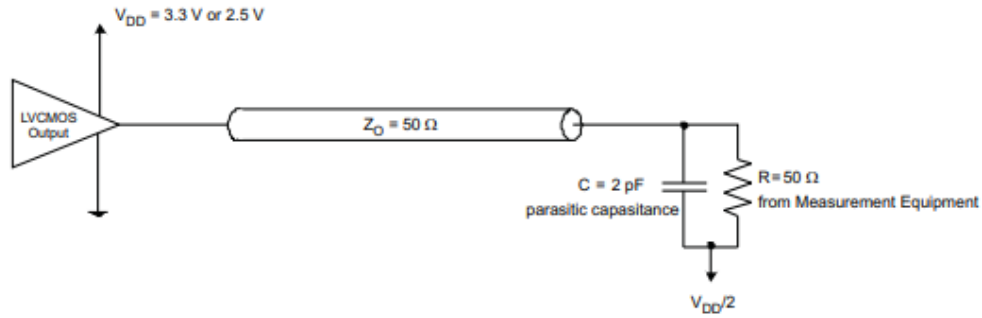

Figure 1. Test Load Circuit
(1) All typical values are at respective nominal V_{DD}. For switching characteristics, outputs are terminated to 50 Ω to V_{DD}/2 (see Figure 1).
(2) This is the formula for the power dissipation calculation (see and the Power Considerations section).
The output load can be capacitive only or capacitive and resistive. The following formula and the power graphs in and Figure 1 can be used to obtain the power consumption of the device: